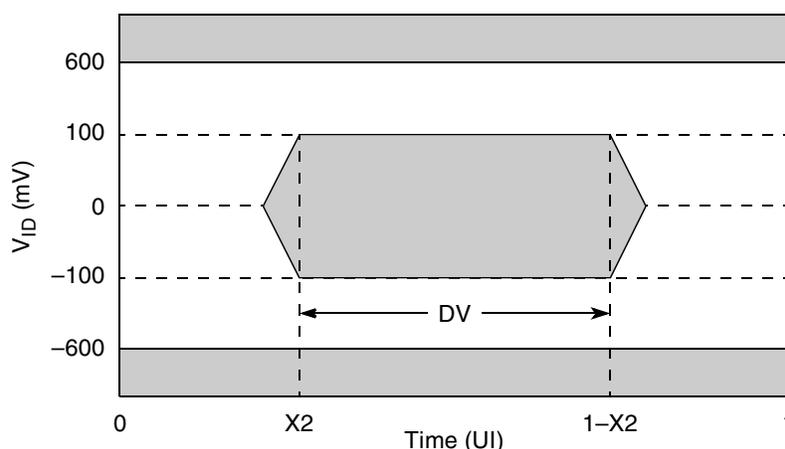

Figure 46. RapidIO Receive Mask
2. Measured using the RapidIO receive mask shown in Figure 46.
The compliance of receiver input signals RD[0:15] and RFRAME with their minimum data valid window (DV) specification shall be determined by generating an eye pattern for each of the data signals and comparing the eye pattern of each data signal with the RapidIO receive mask shown in Figure 46. The value of X2 used to construct the mask shall be $(1 - DV_{min})/2$. The ± 100 mV minimum data valid and ± 600 mV maximum input voltage values are from the DC specification. A signal is compliant with the data valid window specification if and only if the receive mask can be positioned on the signal's eye pattern such that the eye pattern falls entirely within the unshaded portion of the mask.